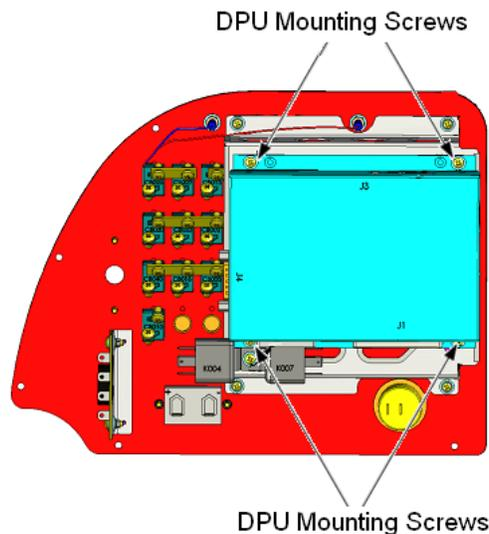

Figure 77-2 DPU Bracket Mounting Screws
12. Remove four (4) 6-32 screws holding the DPU mounting bracket to the circuit breaker panel assembly. See Figure 77-2 for the location of the DPU mounting screws.